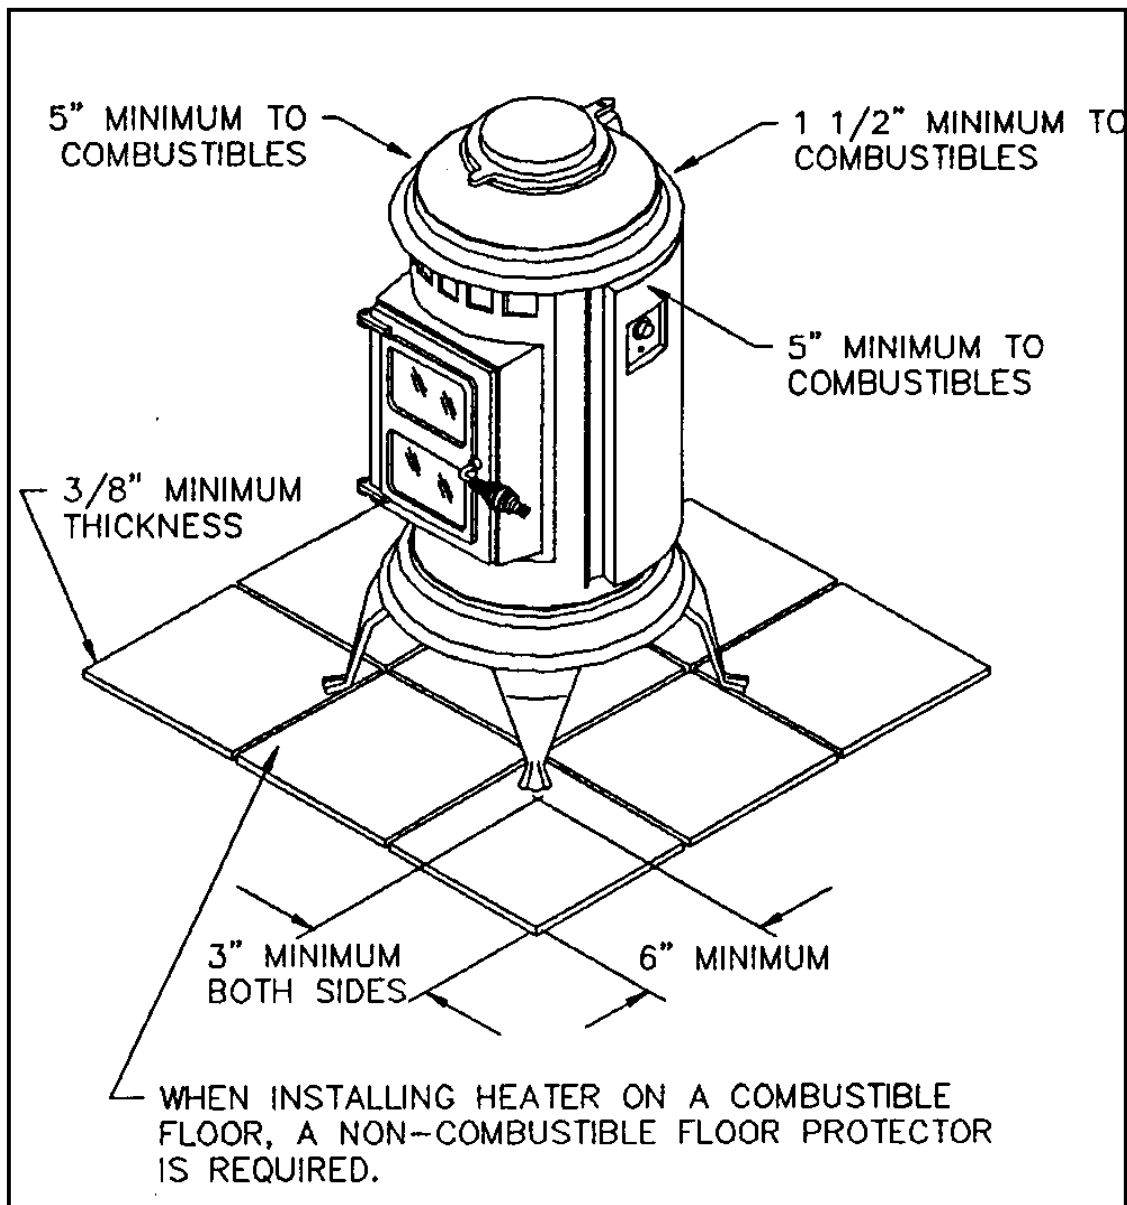

FIGURE 4
5. A 5-inch clearance to combustibles must be maintained between unit and sidewall. A 2- inch clearance to combustibles must be maintained between unit and back wall. If installed in a corner, clearance must be 5" to combustibles. See **FIGURE 4**.
6. A non-combustible hearth pad must be used if installed on a carpet, wood floor, or other combustible material (see **FIGURE 4**). Maintain 6" (152mm) beyond the front and beyond each side of the fuel loading and ash removal opening.
7. Keep front door of appliance thirty-six (36) inches from combustibles (drapery, furniture).